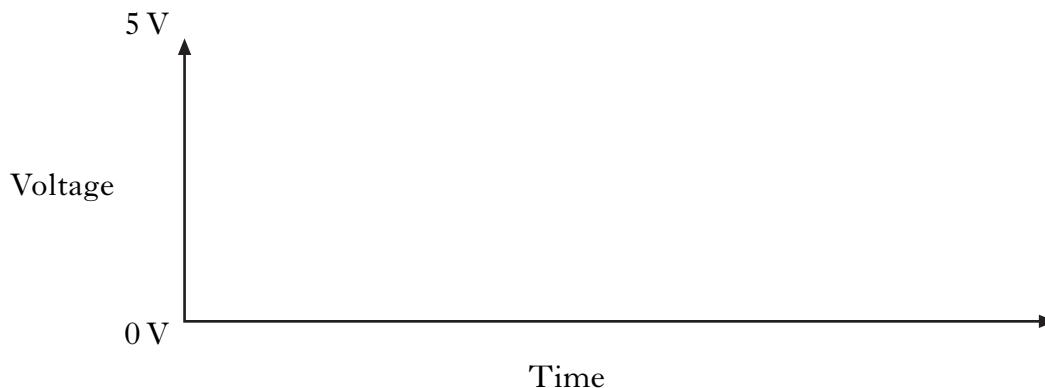

Figure Q9(b)
- (c) (i) Complete the graph, Figure Q9(b), to show a PWM signal and label the **mark** and **space** time.